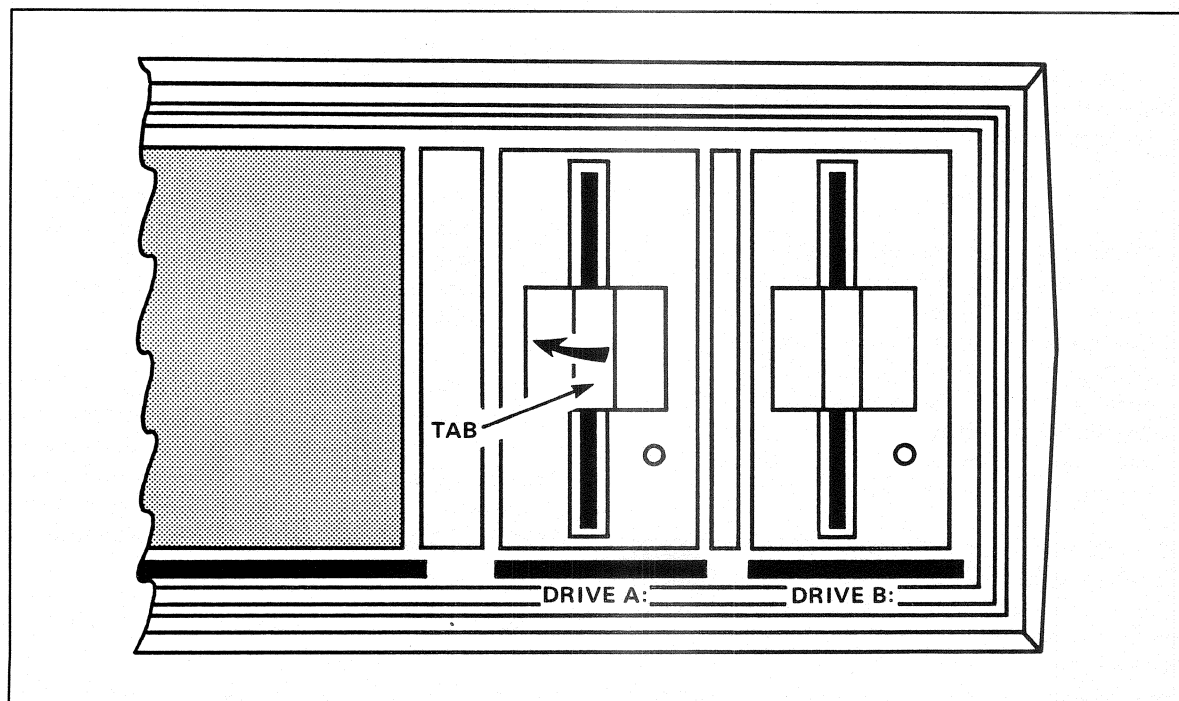

Figure 5-4. Opening Drive Doors (Typical Unit)
**Step 1** – Open the drive door by gently pulling at the spring-loaded tab on its face. (See Figure 5-4.)